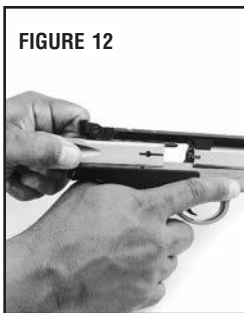

FIGURE 12
- Grasp the serrated sides of the slide from the rear and briskly pull the slide fully rearward to eject the mis-fired round. Do not obstruct the ejection port, and do not attempt to catch the round by placing your hand over the ejection port (FIGURE 12).